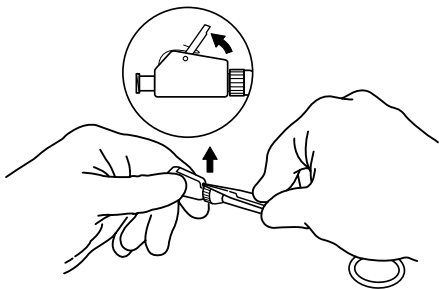

Fig. 4
- Pry upward until the locking cam lever is free. (**Fig. 4**)